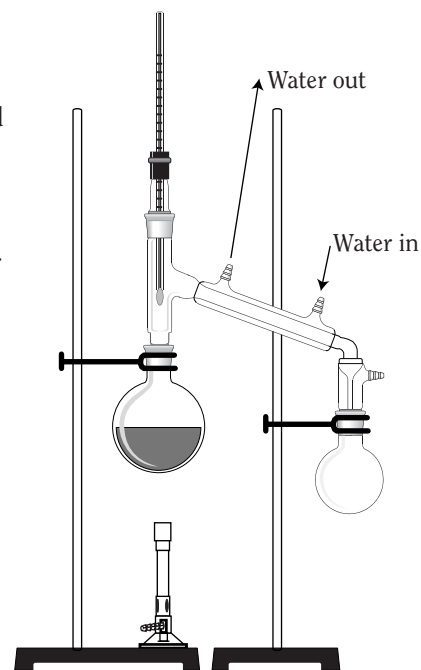

Figure 1. Custom Distillation Apparatus.
3. Set up the distillation apparatus as shown in Figure 1:
- b. Place the one-piece, custom distillation head (or the three-way adapter) into the distilling flask (see Figure 1).
- d. Clamp the receiving flask into position as shown in Figure 1.